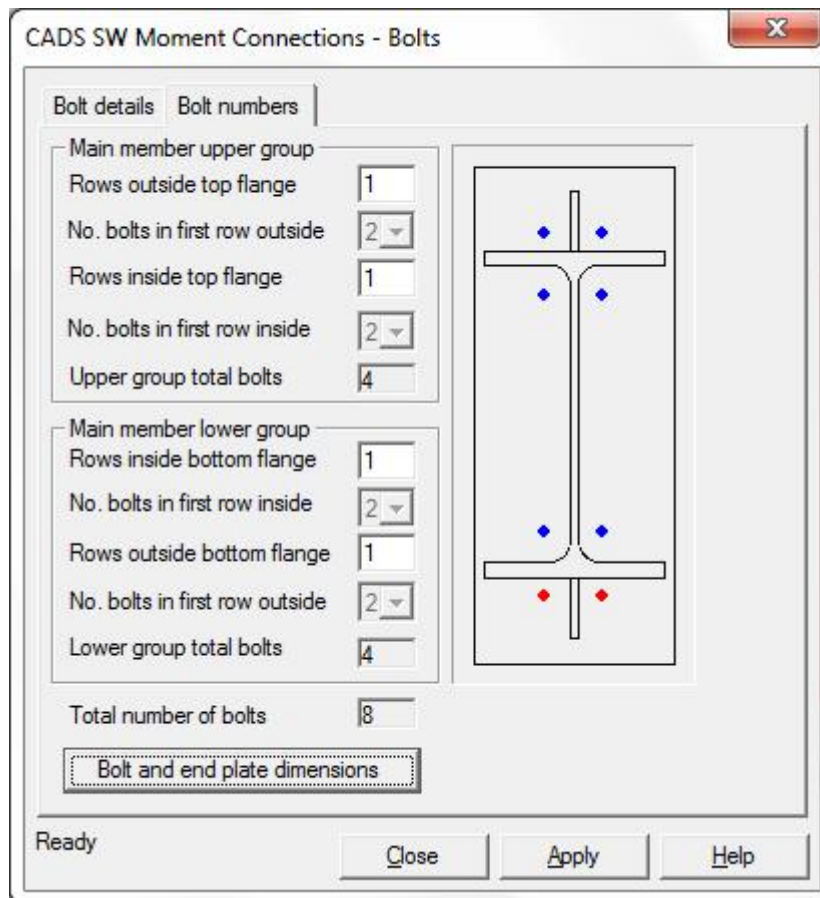

Fig 4.21 Bolt numbers page with outer bolt rows selected.
- Open the *Bolts>Bolt numbers* page and edit to provide bolt rows outside the flanges as shown in fig 4.21